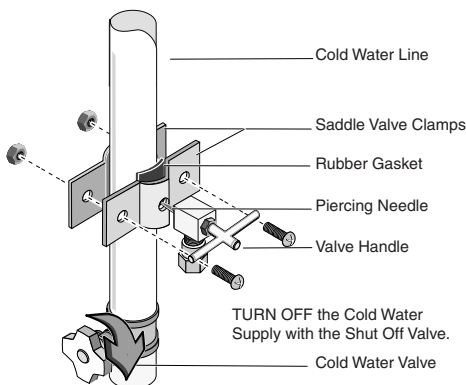

Figure 5
Install the saddle valve; See Figure 5.
2. Install the saddle valve on the cold water line as shown in Figure 5.